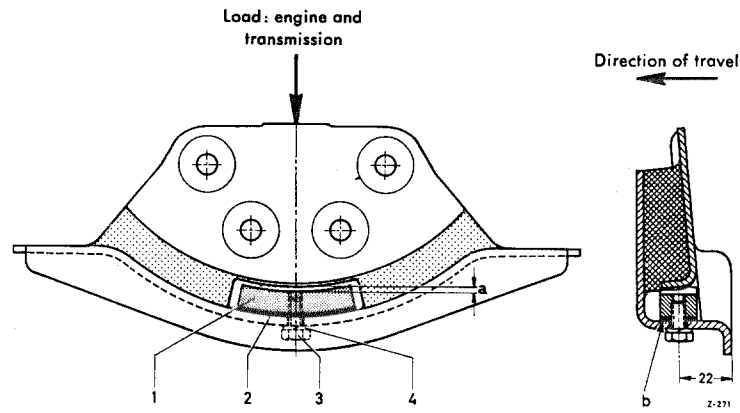

Fig. 24-1/4
Model 219 has an additional stop piece (1) in the rear rubber mounting in order to limit the vertical movement of the engine (Fig. 24-1/4). This stop piece can also be installed subsequently in cars of Model 220 a if complaints are received about a rattling of the gear shift lever and in particular cases about the 3rd and 4th gear slipping out as a result of vertical and horizontal engine movements.
1. Mark out the bore for the hexagon fixing screw for the stop piece as shown in Fig. 24-1/4 and drill with a 6.4 mm  $\phi$  drill.
3. Screw down the stop piece (1) using as many spacer washers (2) as are necessary to produce a distance  $d = 1$  to 2 mm between stop piece and rubber mounting **with the engine installed in the vehicle**.